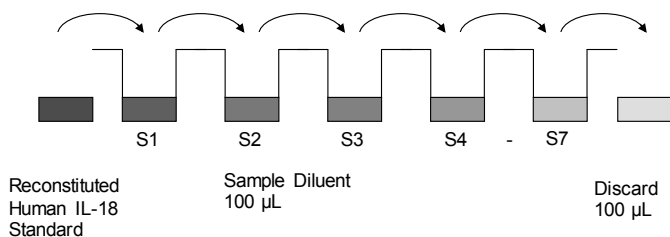

Fig. 7 Dilute standards - microwell plate
3. Standard dilution on the microwell plate (Alternatively the standard dilution can be prepared in tubes - see "External standard dilution" on page 3): Add 100 µL of Sample Diluent in duplicate to all standard wells. Pipette 100 µL of prepared standard (see Preparation of Standard "Human IL-18 standard" on page 3, concentration = 10,000 pg/mL) in duplicate into well A1 and A2 (see Table 1). Mix the contents of wells A1 and A2 by repeated aspiration and ejection (concentration of standard 1, S1 = 5000 pg/mL), and transfer 100 µL to wells B1 and B2, respectively (see Figure 7). Take care not to scratch the inner surface of the microwells. Continue this procedure 5 times, creating two rows of human IL-18 standard dilutions ranging from 5000 to 78 pg/mL. Discard 100 µL of the contents from the last microwells (G1, G2) used.